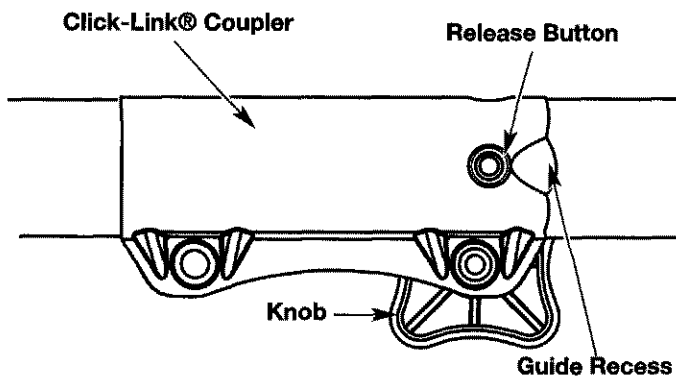

Fig. 12
1. Turn the knob counterclockwise to loosen (Fig. 12).
2. Press and hold the release button (Fig. 12).
1. Turn knob counterclockwise to loosen (Fig. 12).
NOTE: Aligning the release button with the guide recess will help installation (Fig. 12).